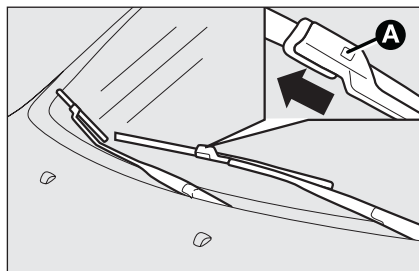

fig. 16
- ☐ press tab **A**-fig. 16 of the coupling spring and remove the blade to be replaced from the arm;